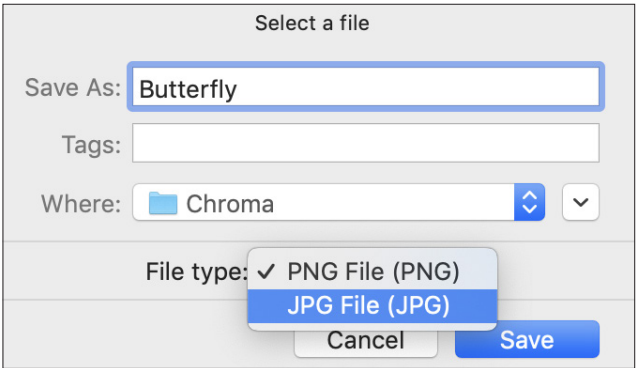

Figure 17
1. To save design as an image, click on File and select Save As Image. Here, you can select whether to save as a PNG or JPG. **See Figure 17.**